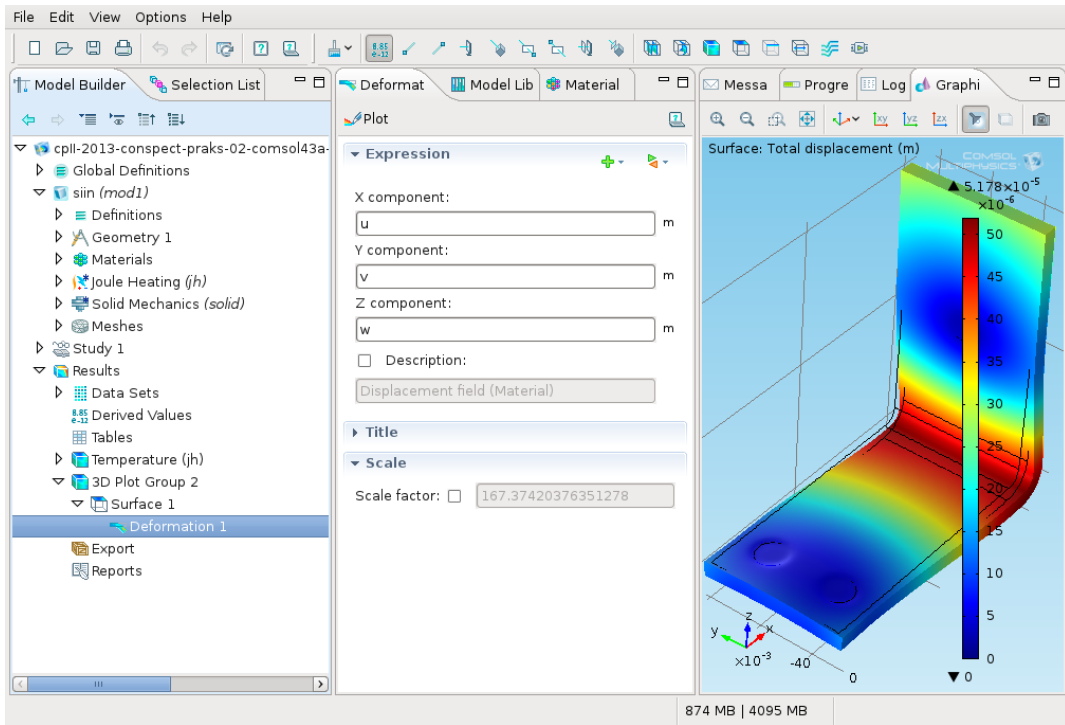

Figure 11: Deformed busbar.
- 4 The next thing to add is the displacement from the initial boundaries of the busbar: **Model Builder** → **Results** → **3D Plot Group 2** → **Surface 1: right button** → **Deformation** (Fig. 11).